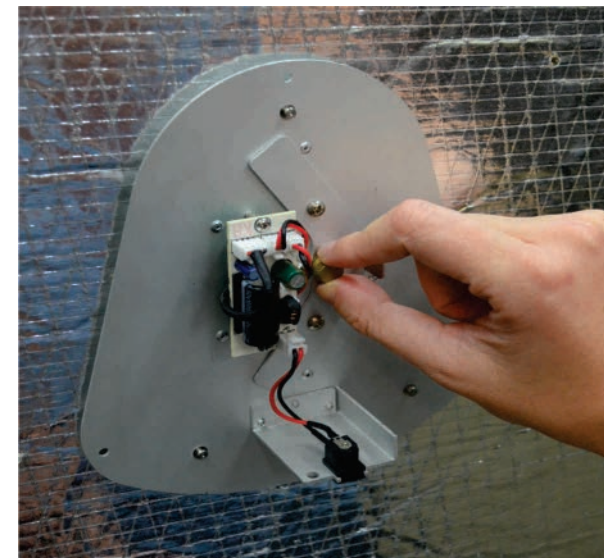

Figure 9
- Remove the brass thumb screw that holds the ceramic catalyst. Refer to Figure 9.